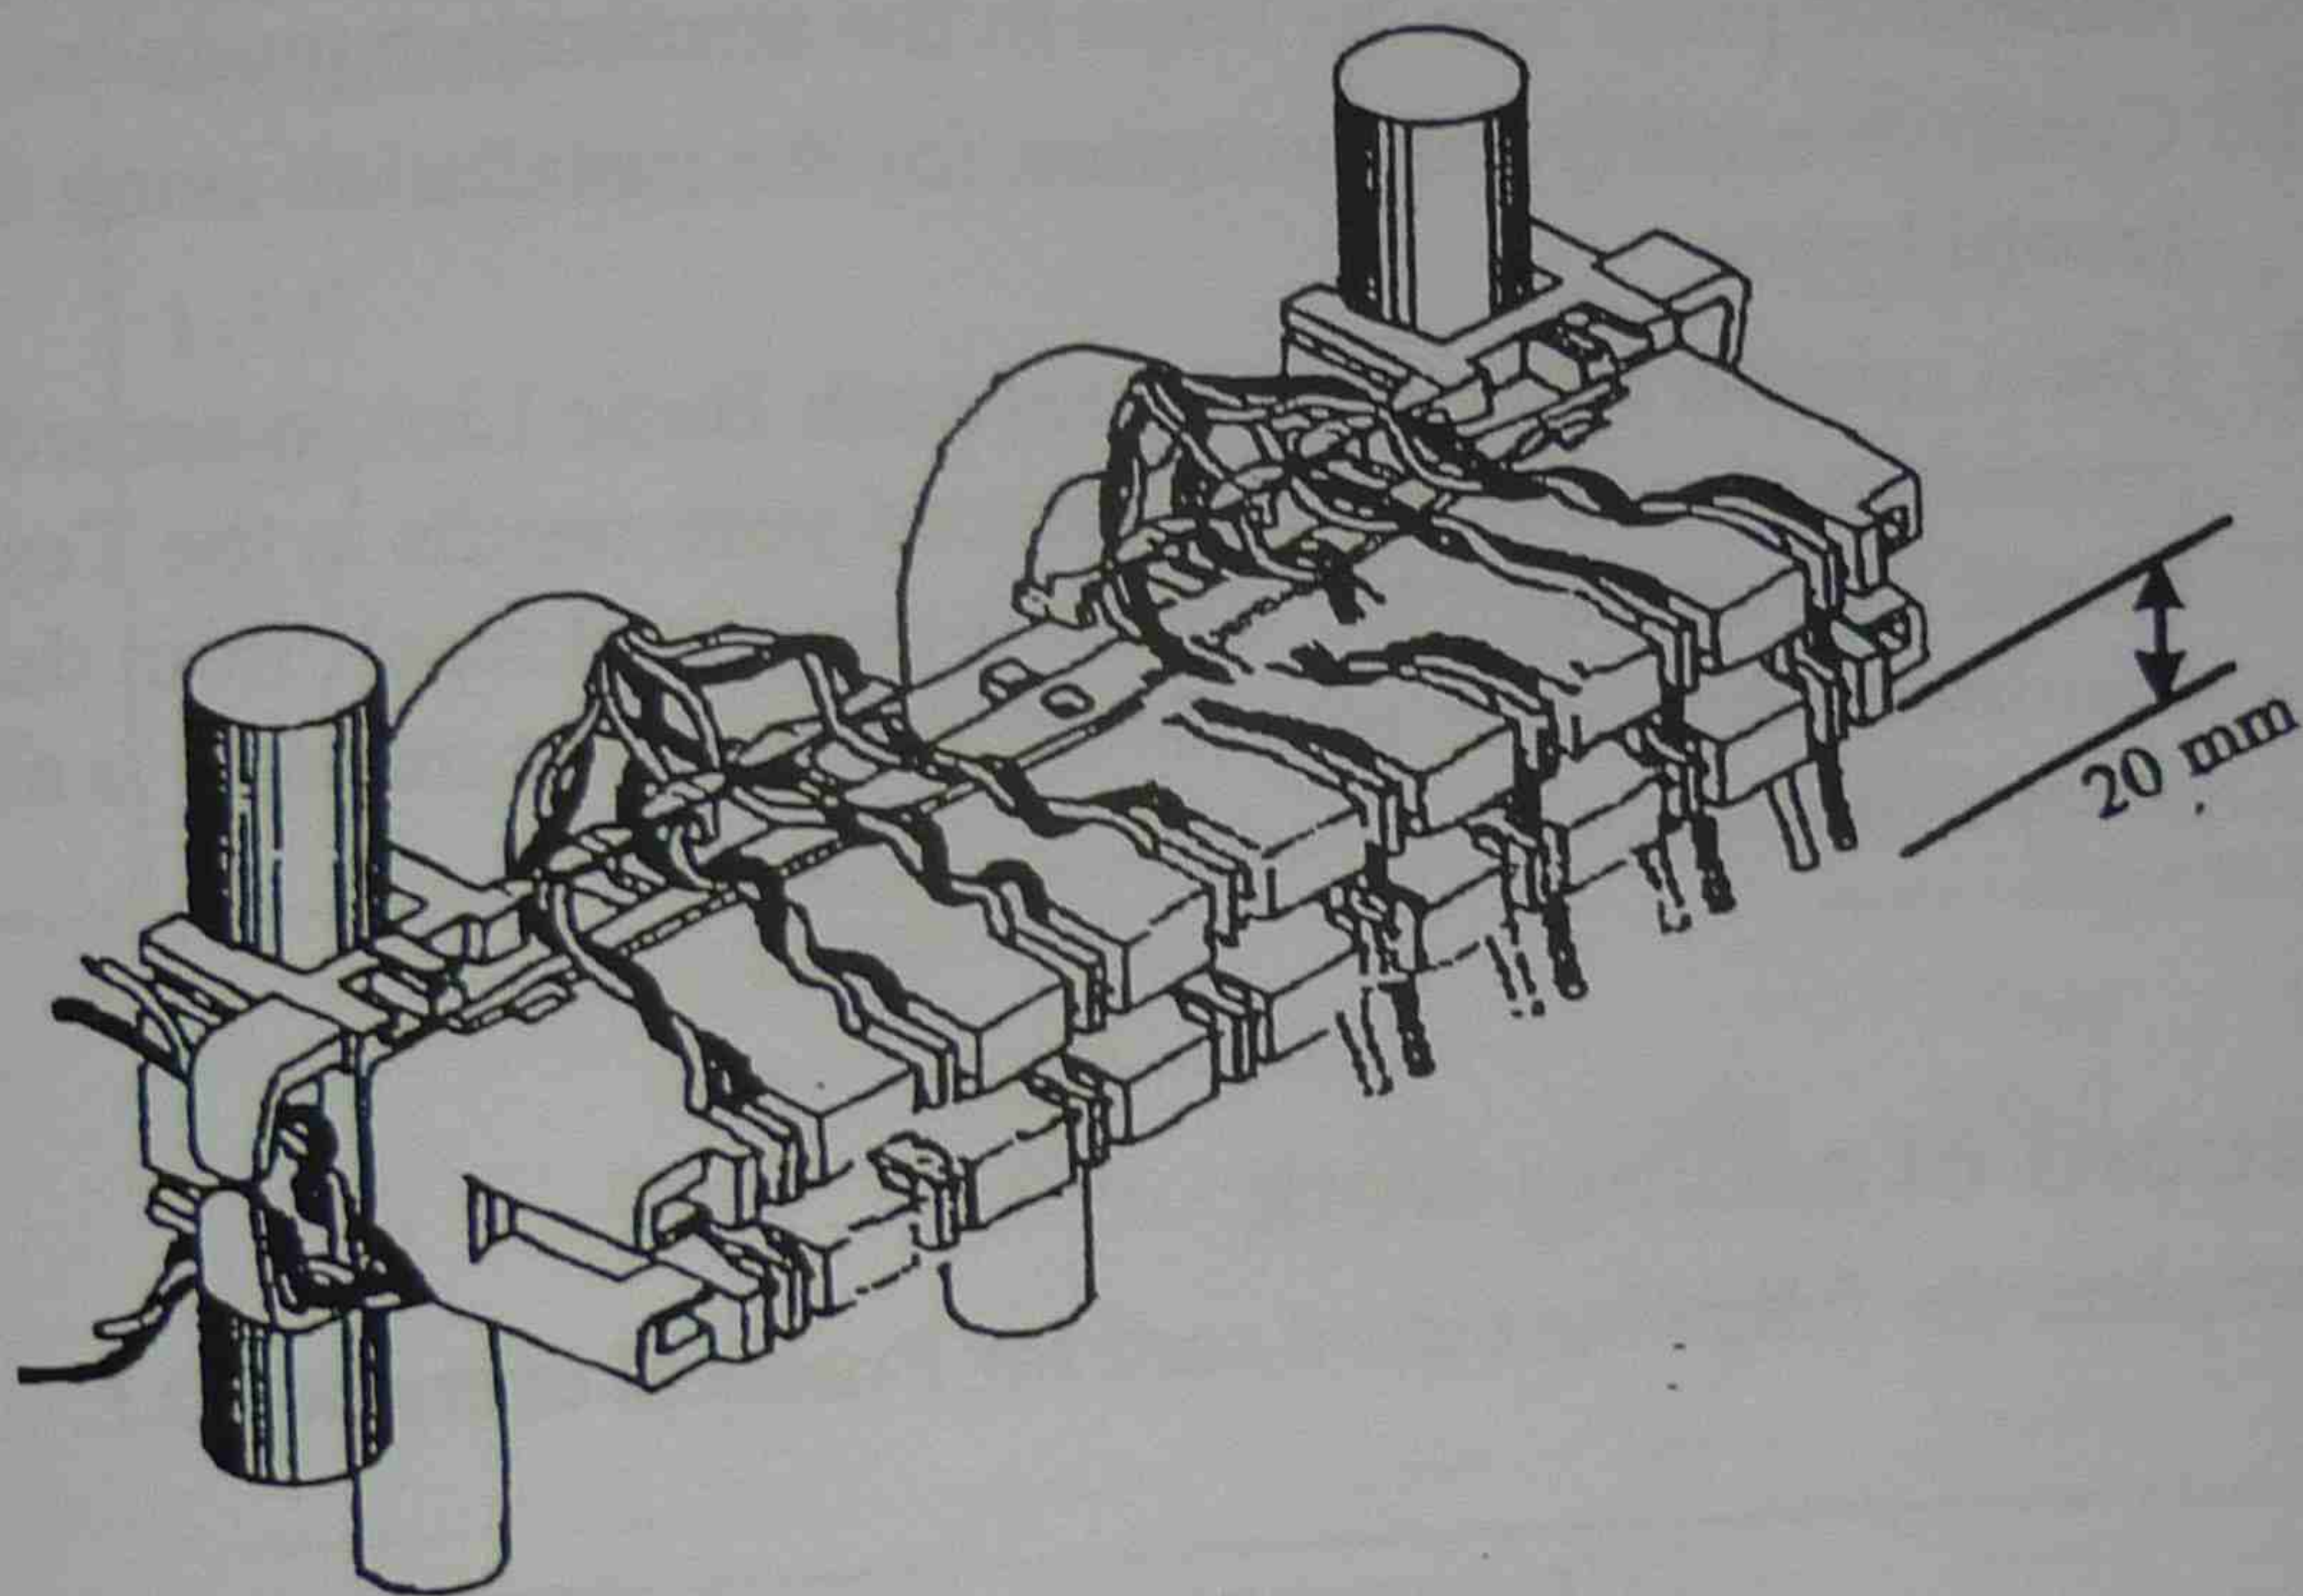

Figure 48 Installing wire pairs into module
13. Bring the sheath of the first cable to the back of the module considering the minimum bend radius specified by the cable manufacturer and AS/NZS 3080. Use Figure 48 as a guide.
14. Fan the wire pairs through the wire guides so that Wire 1 of Pair 1 to the left-most contact slot, Wire 2 of Pair 1 to the adjacent contact slot and so on (see Figure 48). Be certain to maintain the wire pairs up to the termination slots, ensuring there is a minimum of 20mm overhang from the bottom of the module. This will prevent short wire off-cuts fouling the termination area.